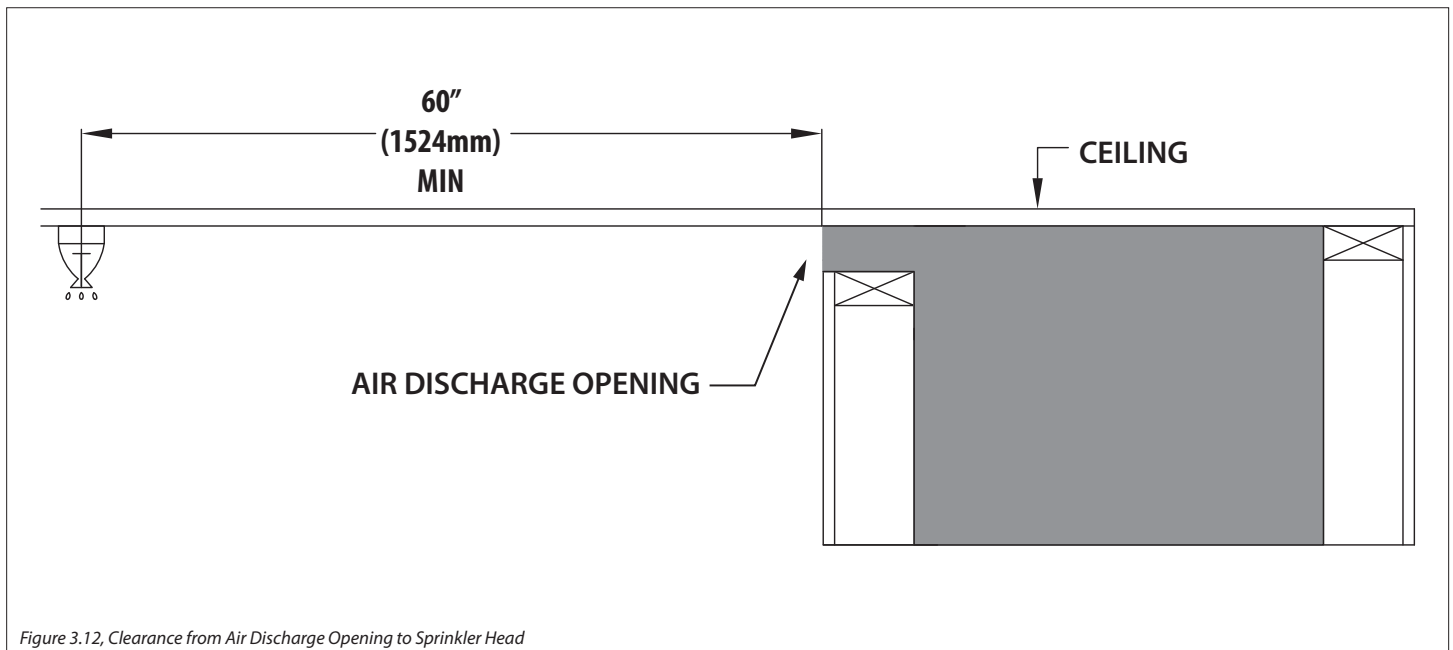

Figure 3.12, Clearance from Air Discharge Opening to Sprinkler Head
- In a situation where a sprinkler head is installed within the proximity to a vented cavity air discharge opening, Figure 3.12 MUST be followed.